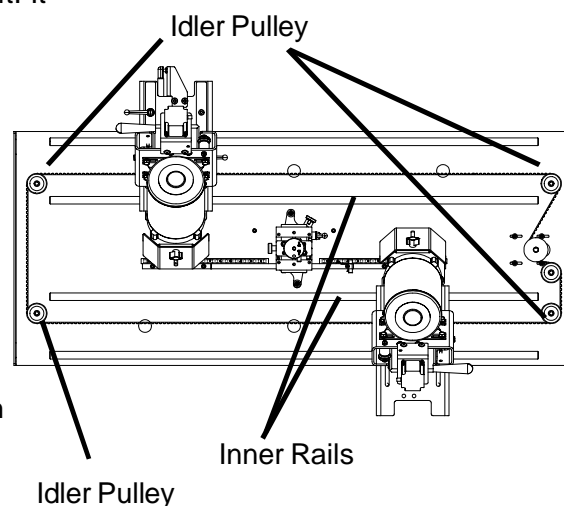

FIG. 7
1. To replace the bearing on the top rail or bottom rail See Fig 7, first remove the grinding head. The Grinding head is secured to the Carriage base with 2 shoulder bolts and 2 adjustable handles. Then remove the screws for the bearing. Slide the bearing off the end of the shafts.
1. To replace a bearing on either of the two inner most rails See Fig 7., first remove the idler pulley that is at the end of the shaft where the bearing will be removed.